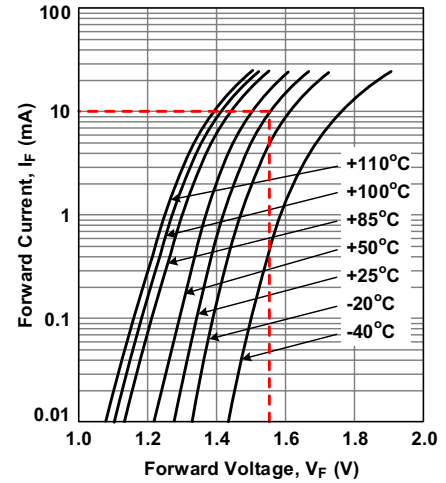

Figure 9. Establishing the I_F and V_F Values from Tables or the Typical Characteristics
- Figure 9. Establishing the IF and VF Values from Tables or the Typical Characteristics 5